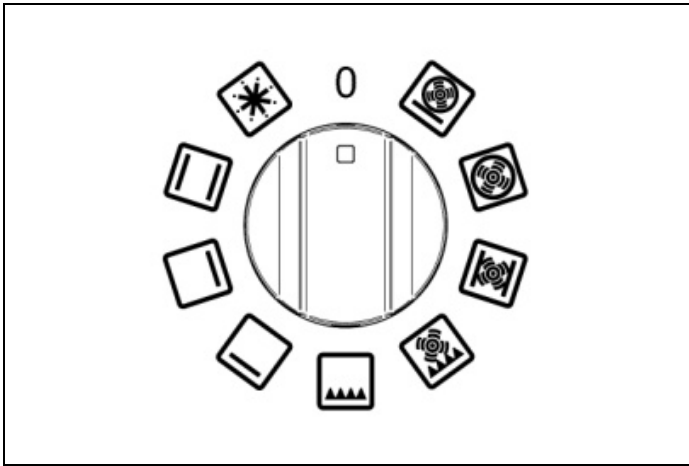
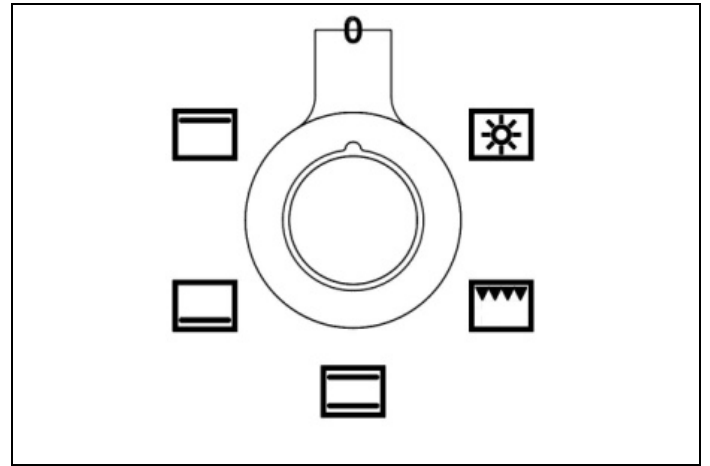
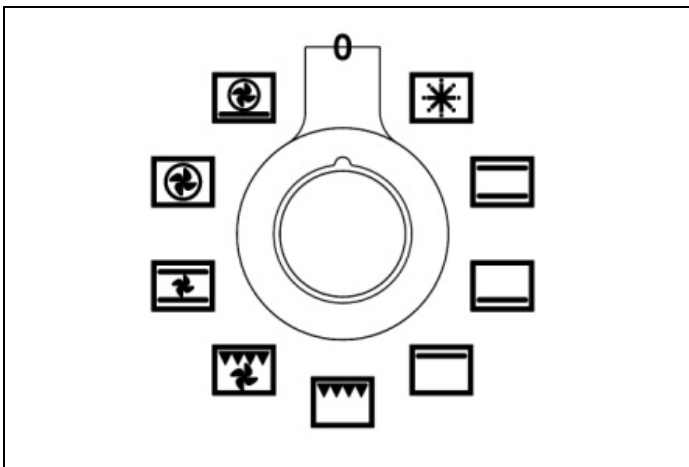
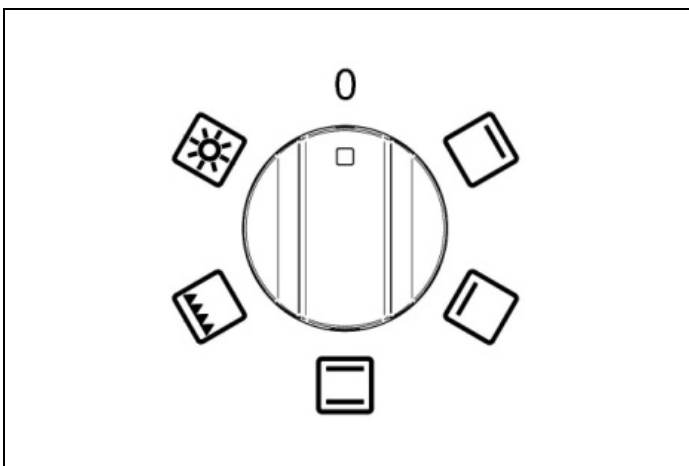

Fig. 23
Fig. 26
Fig. 24
Fig. 25
- 1) Turn the functions knob (Fig. 23 - Fig. 24 and Fig. 25 - Fig. 26) clockwise to select the function required.